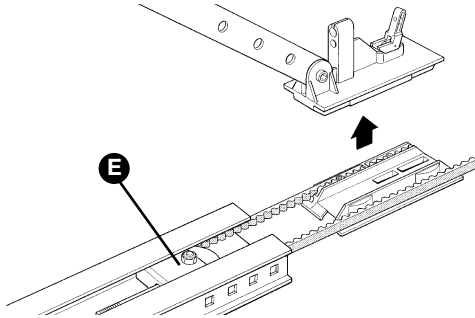

Figure 19
**3** Slide the belt tensioner device to mid-stroke **[E]**, as shown in figure 19, and remove the carriage completely.